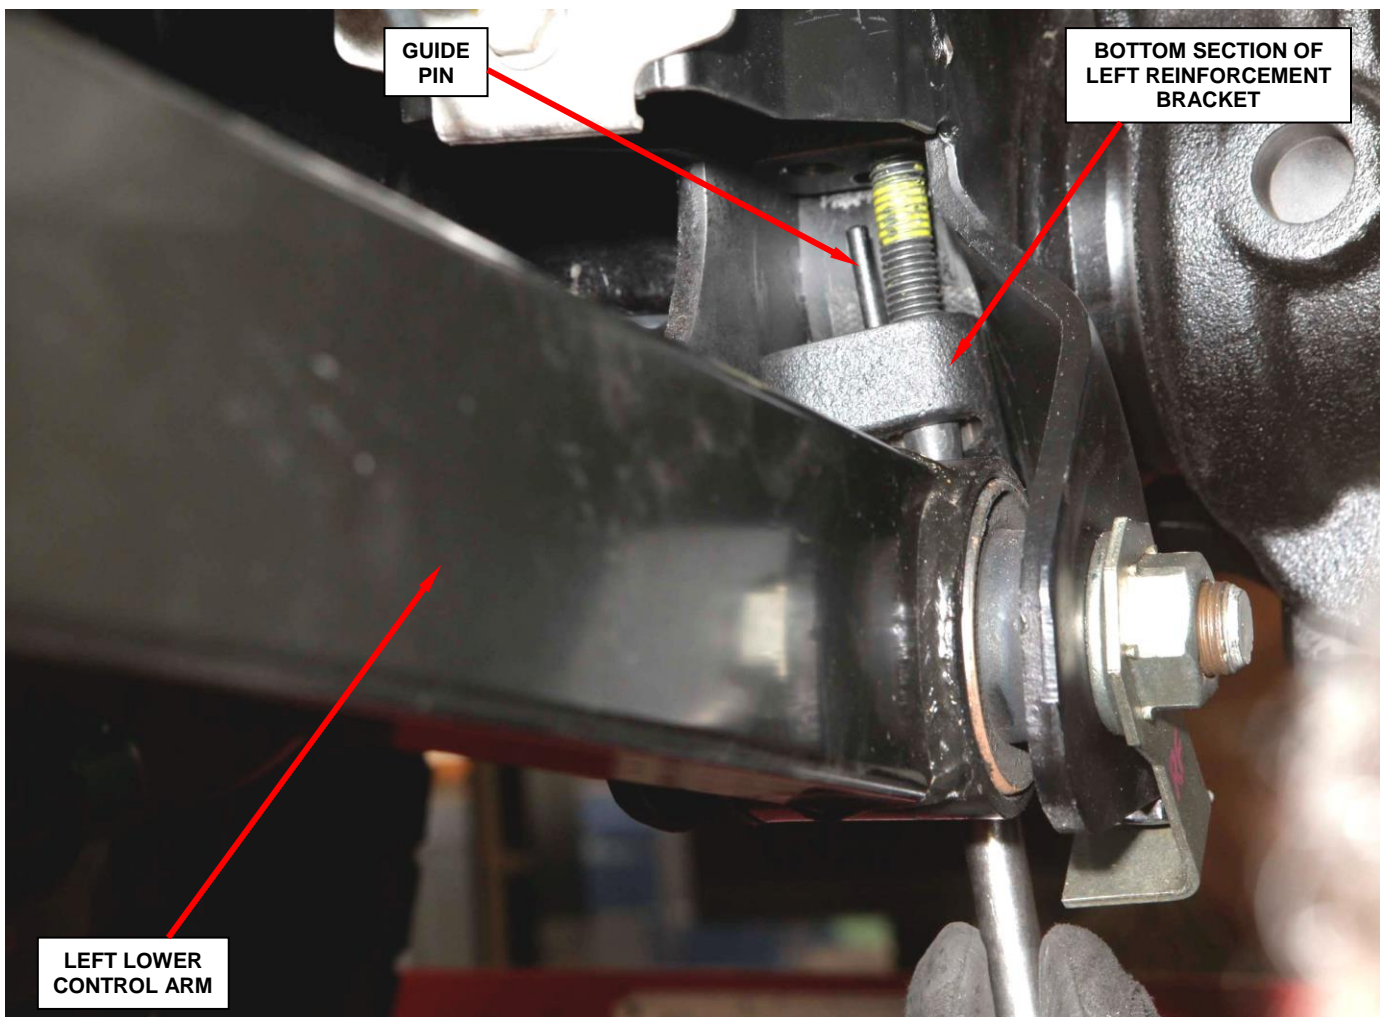

Figure 21 – Install Left Side Bottom Reinforcement Bracket Retaining Bolts
- c. Place the bottom section of the left reinforcement bracket into position and install the bottom retaining bolts, hand tighten only (Figure 21).
NOTE: The guide pin on the bottom section must go in the hole on the top rear section of the bracket (Figure 21).